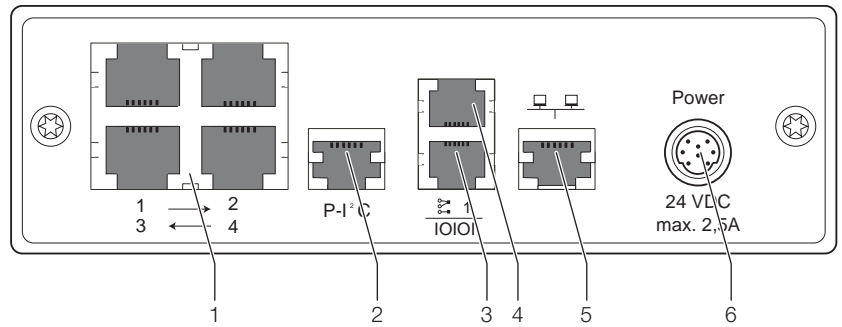

Fig. 49: Control unit Liquid Cooling Package Plus (Basic CMC) – rear
To connect the Liquid Cooling Package Plus to a network, connect one of the network ports on the Liquid Cooling Package Plus control unit (Fig. 49, item 5) to a network access port using a category 5 patch cable.